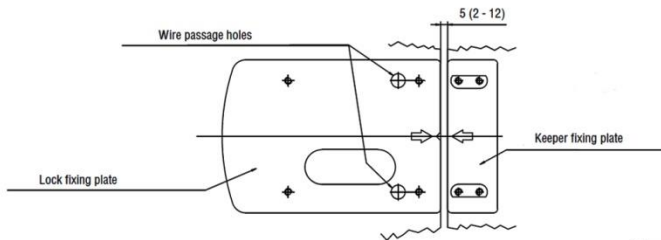
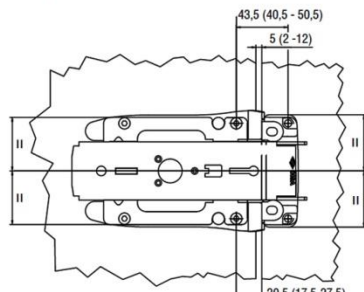
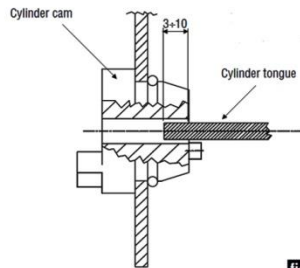

fig. 8
fig. 9
fig. 10
- For art. 1A721 and 1A731, weld the lock and the keeper fixing plates to the gate, flush with the uprights and making the arrows on the plates match with each other (fig. 8). Make sure that the distance between the uprights is within the tolerance values, as the keeper is fitted with a "swinging pin" which covers a stroke of 2 to 12 mm (fig. 9).
- For art. 1A610/611/630/631 (without fixing plates), fix the keeper flush with the upright and the lock on the door leaf. Check that the distance between the axis of the front holes of the lock fixing screws and the keeper flush line, is within the tolerance values as the keeper is fitted with a swinging rod which covers a stroke of 17.5 mm to 27.5 mm (fig.9). For the art. 1A610 and 1A630 (double cylinder), make sure that while installing the cylinder, the cylinder tongue is inserted into the cam by at least 3mm but no more than 10mm (cut any excess length) (fig. 10).